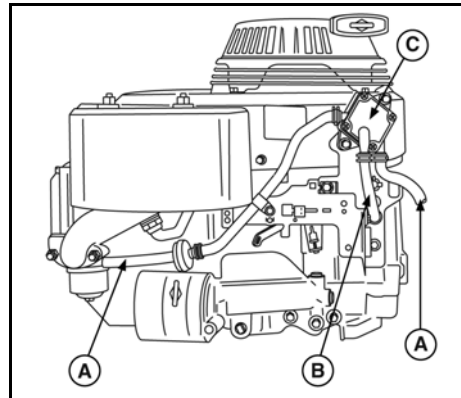

Figure 1
2. Release clamps and disconnect fuel lines (A, Figures 1 and 2) and vacuum line (B) from the fuel pump (C).